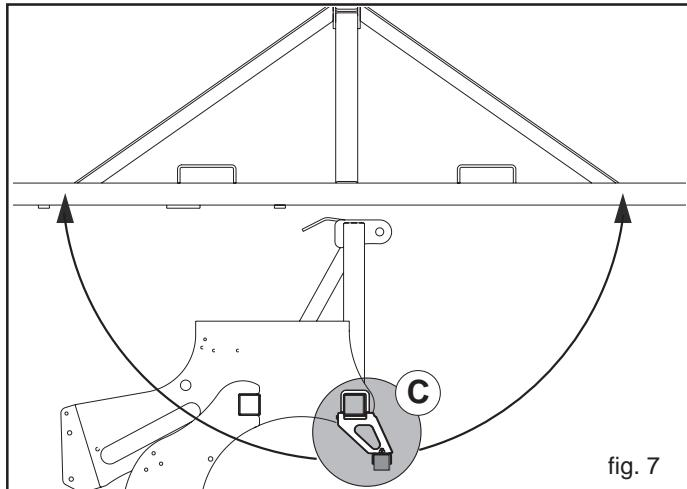

fig. 7
- In correspondence of supports (C, Fig. 7), to mount slabs of support (G) like indicated in Figure 8. To make attention the correct assembly of the slab: